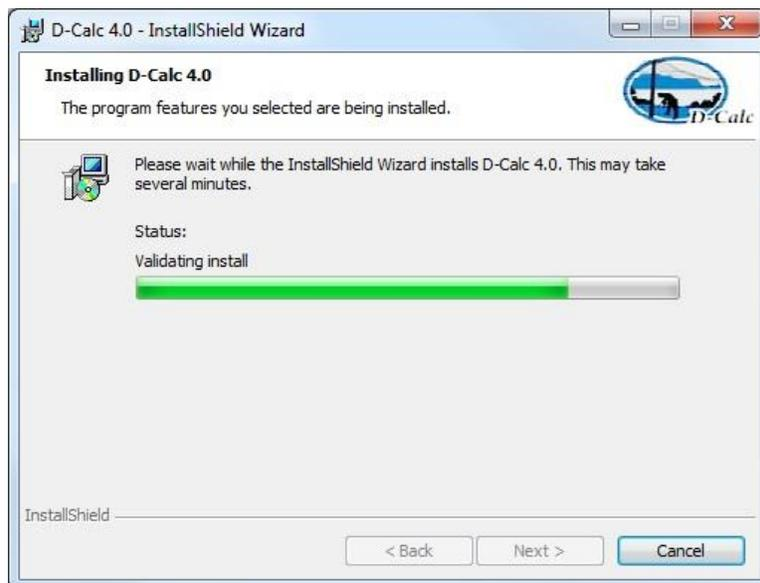

Figure 1-5. Installing D-Calc 4 Dialog
10. The “Installing D-Calc 4.0” dialog next appears as shown in Figure 1-5. When finished installing the files, the “**Next**” button is enabled. Click the “**Next**” button.